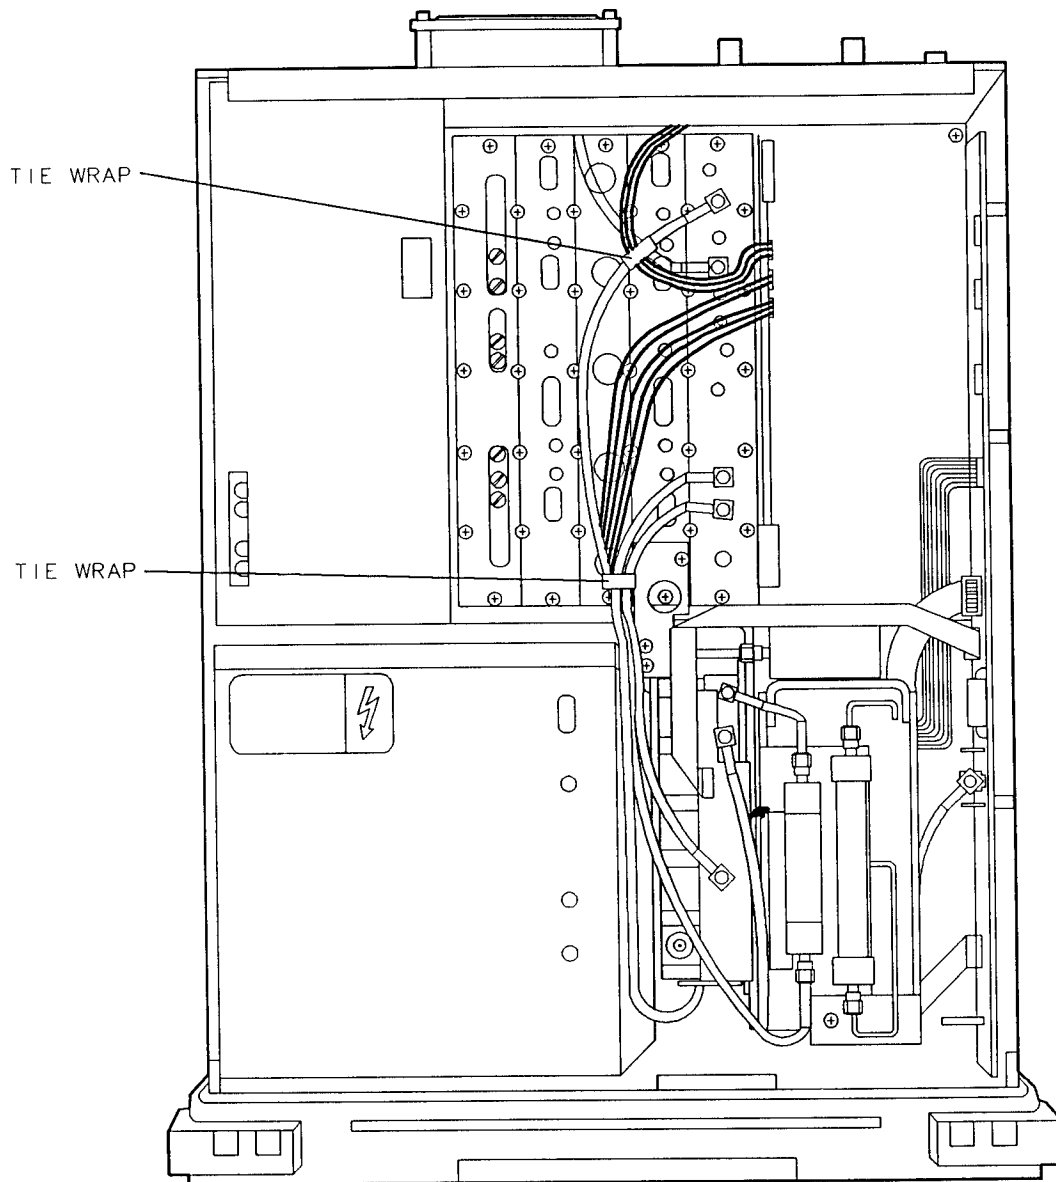

Figure 9. Location of Tie Wraps
30. Bundle the wires with the tie wraps as shown in Figure 9. The tie wraps should secure the cables to prevent damage to the cables when the analyzer cover is replaced.